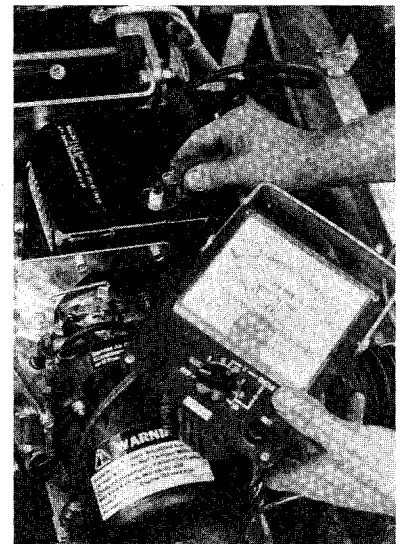

Figure 7-19
4. Connect tachometer, CLUB CAR part # 1012800. (Red wire to spark plug, black wire to spark plug wire.) (Figure 7-19) Keep induction coil away from engine.